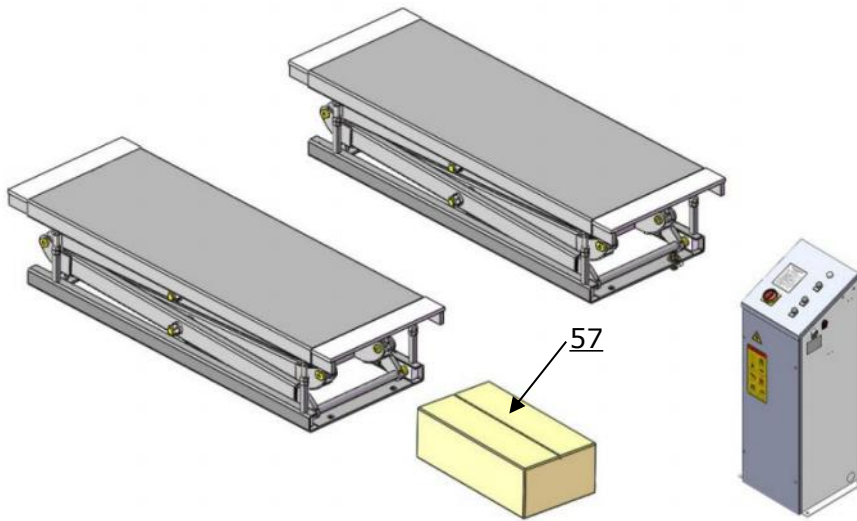

Fig. 9
2. Take off the packing shelf, open the outer packing and check the parts according to the shipment parts list. **(See Fig. 9)**